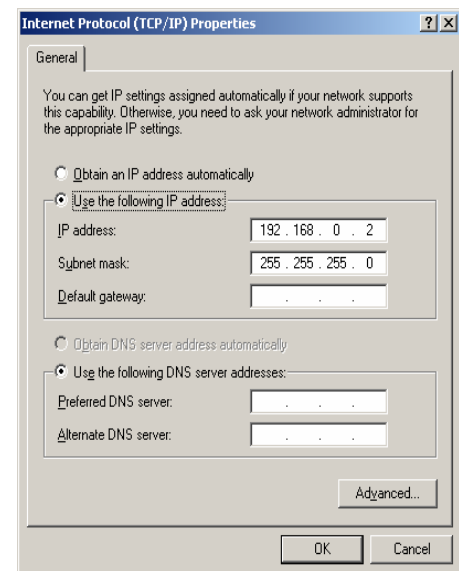

Figure B-7: Internet Protocol (TCP/IP) Properties Screen
5. Click on the Properties button. The Internet Protocol (TCP/IP) Properties Screen displays (Figure B-7).